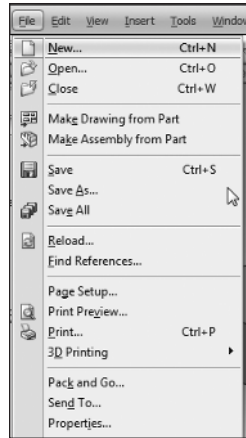

FIGURE 1.31 Using accelerator keys to access menu items
2. The underlined letter corresponds with the key you must press to expand the menu list. To expand the File menu, press F on your keyboard, as shown in Figure 1.31.